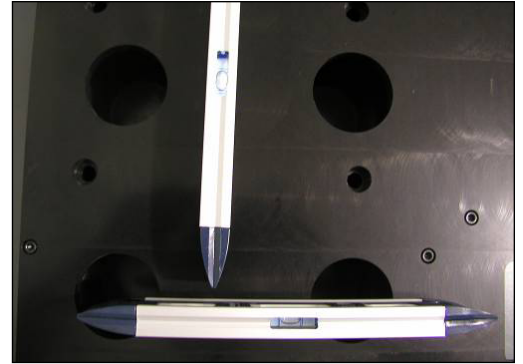

Fig. 5
A. Ensure the frame assembly is level (Fig. 5).